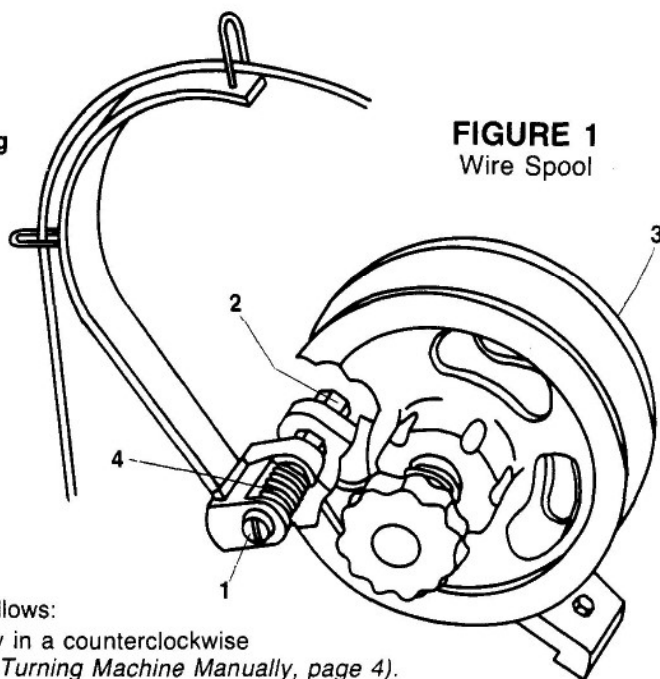

FIGURE 1
Place a spool of proper size wire on spoolholder above the stitching head. Refer to Bliss Head Instruction Manual BSA1140S for the proper method for inserting the wire into the stitching head. Saturate Oiler Felt in stitching head with oil. Adjust the brake on the wire spool (3), Figure 1, by increasing or decreasing the tension of the spring (4). To adjust, loosen nut (2) and turn slotted screw (1) in or out. Retighten the nut (2) after adjustment. Use the least tension possible. Tension must be great enough to prevent spool from unwinding but not enough to cause binding and uneven stapling.